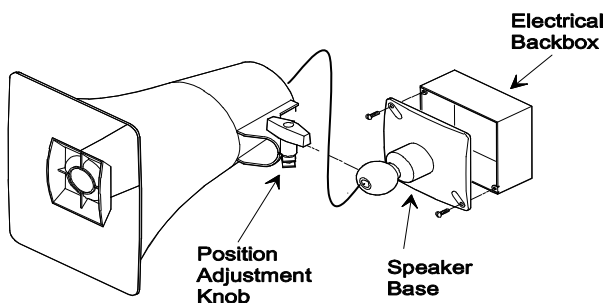

Figure 2. Mounting to an Electrical Backbox
- The base has holes punched for a double-gang square box, but by punching out additional knockout holes, the base can be mounted to a single-gang or octagon box. See Figure 2.